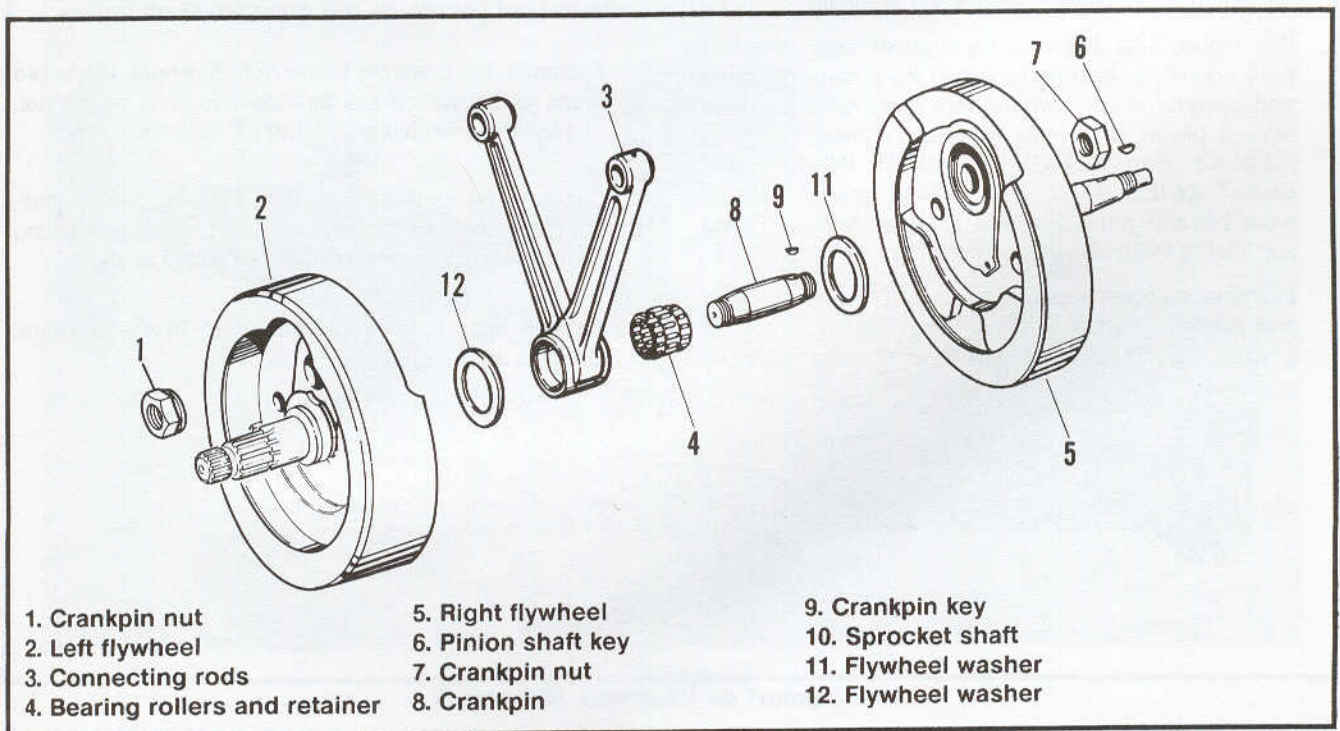

Figure 3-61. Flywheel Assembly
2. See Figure 3-61. Remove crankpin nut (1). To loosen flywheel, strike left flywheel rim with soft metal mallet at 90 degrees to crankpin.
CLEANING AND INSPECTION (Figure 3-61)
FLYWHEEL ASSEMBLY (Figure 3-61)